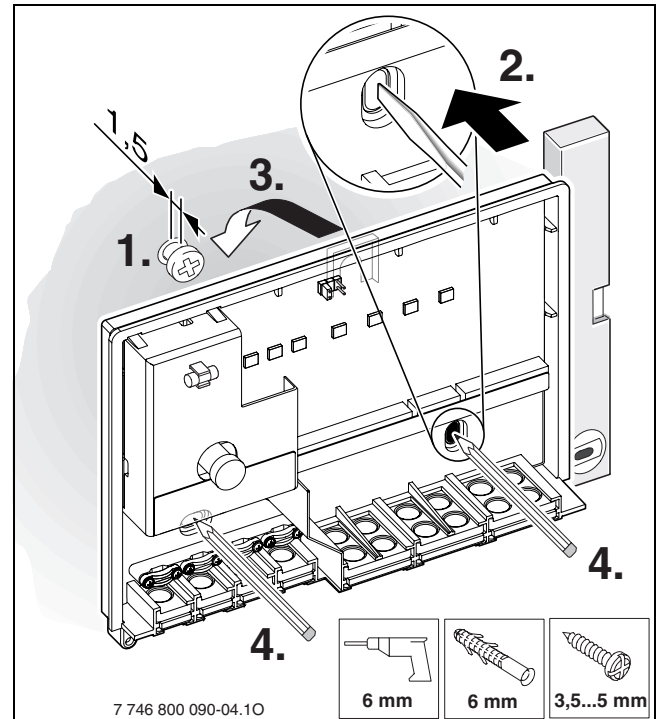

Fig. 8 Top fixing screw
- For the top fixing screw, drill a 6 mm Ø hole, insert a rawl plug and insert the screw until only 1.5 mm protrudes (→ fig. 8).